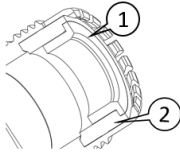

Fig. 9: Choose the proper seal
- 1 Choose the proper seal accessory. The part seal recommended outer diameter of the cable (fig. 9 / pos. 1) is 20 – 24 mm. The part seal recommended outer diameter of the cable (fig. 9 / pos. 2) is 24.5–30 mm.